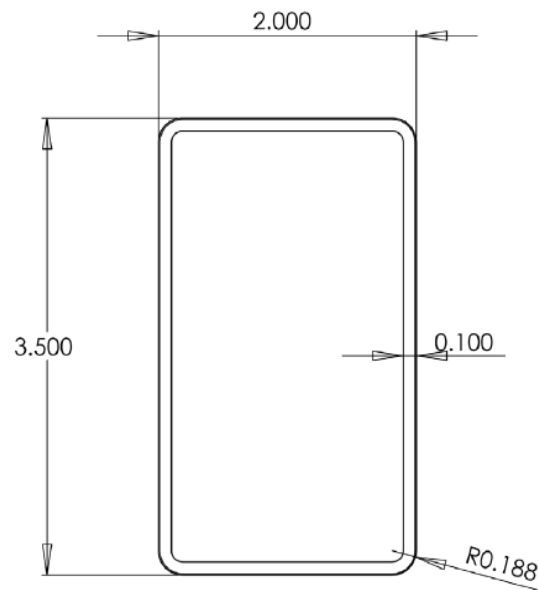

FIGURE 4 – VINYL 2" X 3.5" RAIL
3.1.2 Top rails in the *Baltimore, Windsor, Kenmore, and Manchester* series are a 2" wide by 3.5" tall rectangular profile with a wall thickness of 0.10". See Figure 4.
3.1.3 Bottom rails in all systems are a 2" wide by 3.5" tall rectangular profile. See Figure 4.